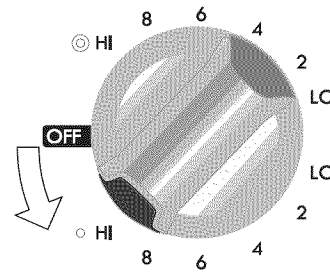

Figure 2
2. Push in and turn the control knob counterclockwise (See Figure 2) for smaller cookware or clockwise (See Figure 3) for larger cookware.